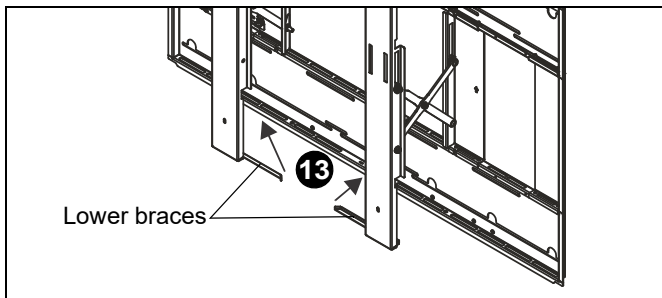

Figure 12
13. Extend lower braces (on scissors assembly) so that they prop against bottom edge of the rear frame. (See Figure 12)